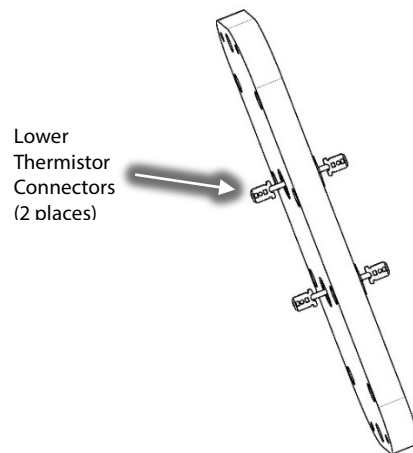

Figure 6 – Thermistor Wire Removal
14. Carefully cut the insulation and lift the Cover Plate and gently unplug the lower thermistor connectors. Refer to Figure 6 (Thermistor Wire Removal).